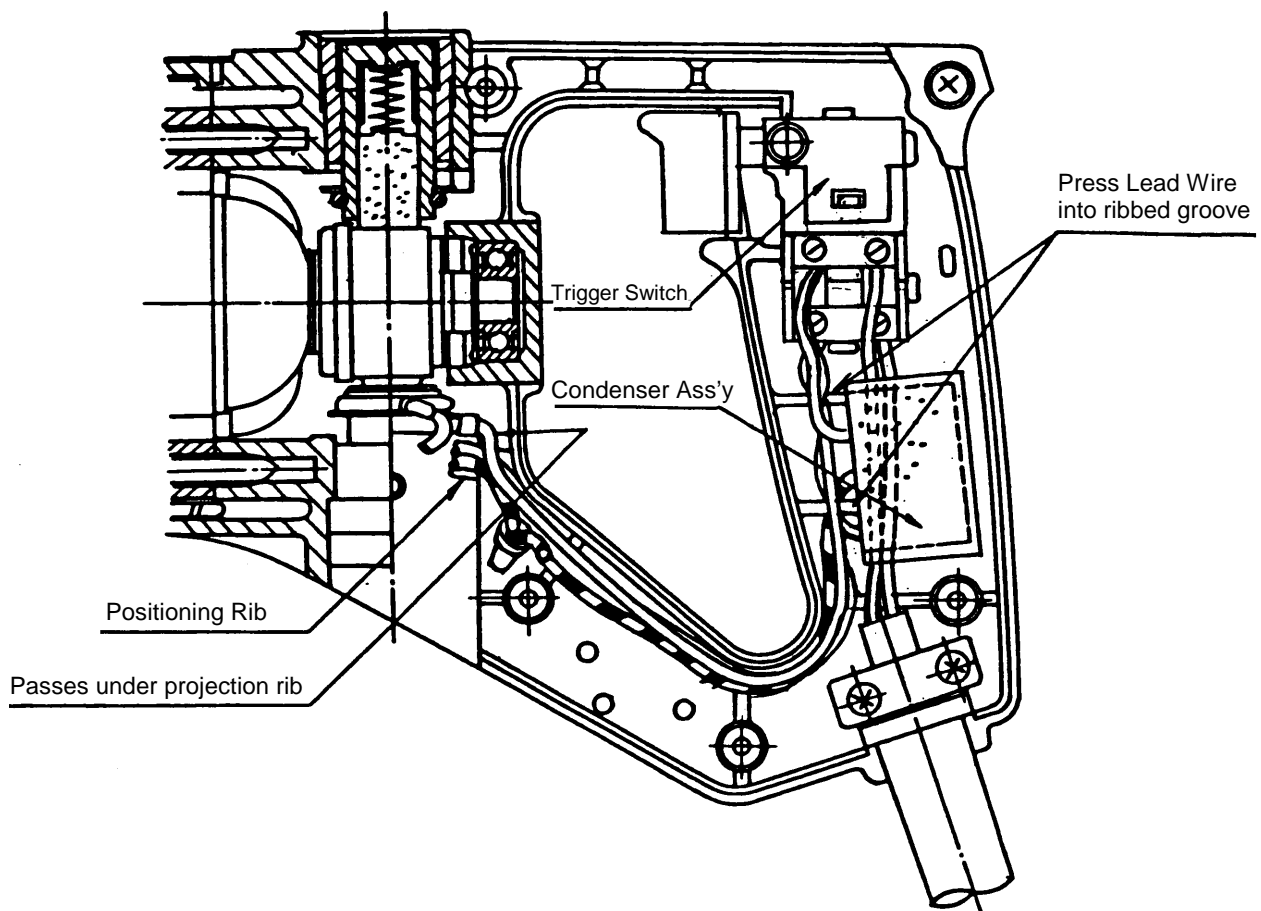
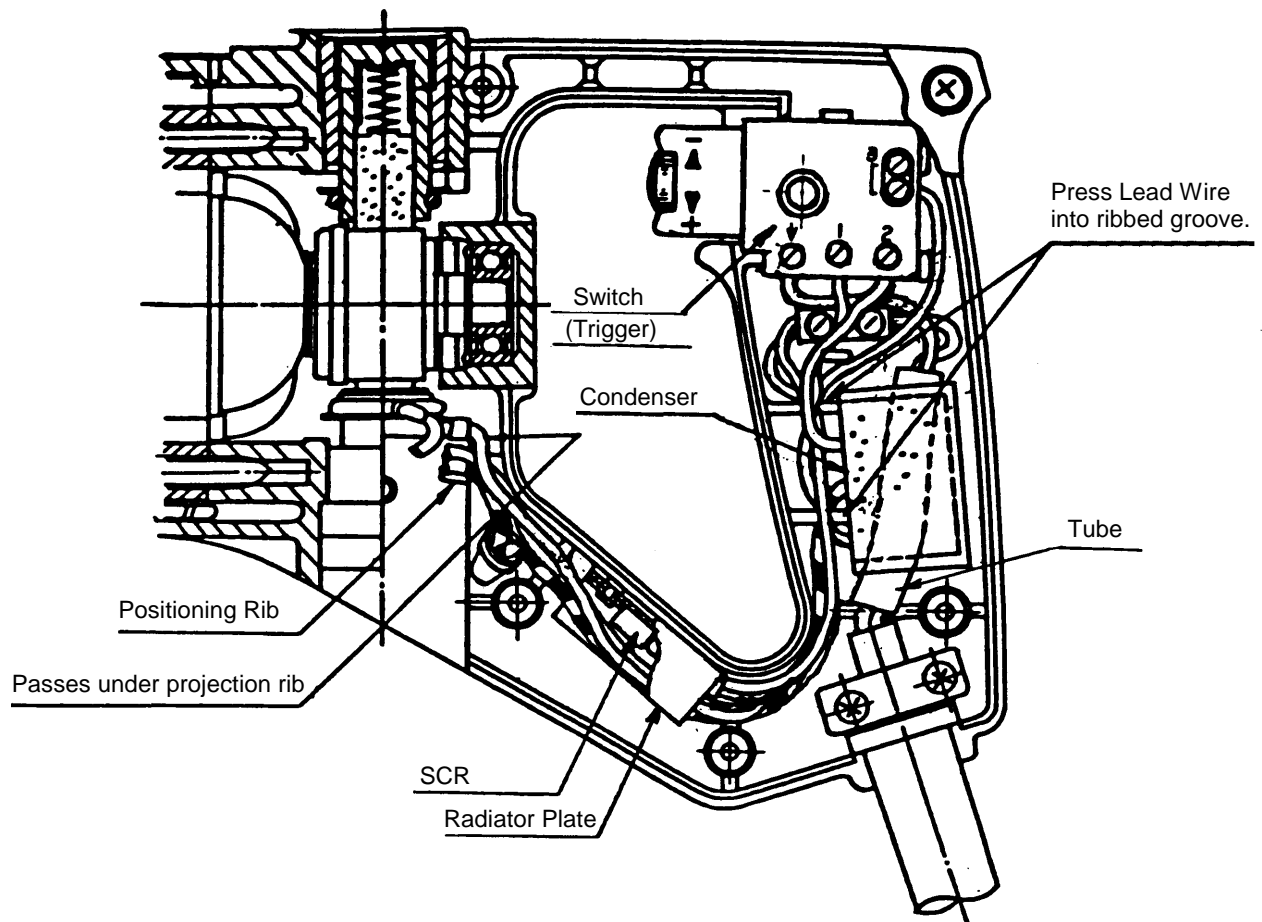

Fig. 8-5 (VTP-16A)
Fig. 8-6 (VTV-16)
- (1) Ensure that Washer (B) ⑭ and the D14 Shaft C-shaped Stop Ring ⑮ are assembled prior to re-inserting the Spindle ③ through the Gear Ass'y ⑳. At the same time, apply No. 29 Hitachi Motor Grease to the Spline section.
- (2) When re-mounting the Shift Lever ⑳, do not fail to re-assemble the Super Lock Washer ㉓ on the threaded portion of the M5 Special Screw.
Internal wiring should be arranged as illustrated in Fig. 8-5 and Fig. 8-6. Pay particular attention to ensure the lead wire is not pinched when the Handle Cover ⑤③ (⑤⑤ for VTP-16A) is re-assembled.